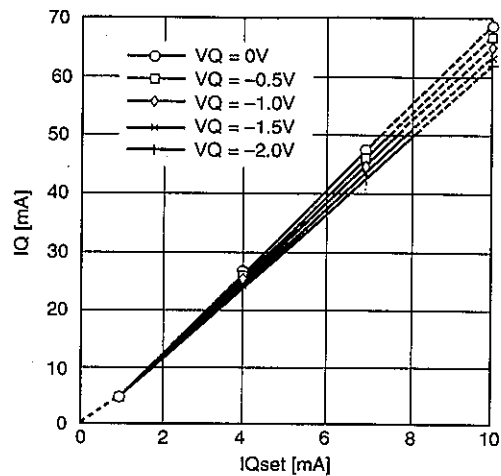

Fig. 2. Modulation current ( $I_Q$ ) vs.
This circuit modulates the laser diode and the modulation current can be set by feeding the current to the modulation current set pin (Pin 14 DrvAdj). The relation between the modulation current (IQ) and the modulation set current (IQset) is shown in Fig. 2. There is also a modulation current monitor pin (Pin 13 DrvMon) that allows the IC user to monitor the modulation current by putting an external fixed resistor between Vcc and DrvMon pins, and the modulation current can be monitored by measuring the voltage of DrvMon pin. The relation between the modulation current (IQ) and the DrvMon current (Idrvmon) is shown in Fig. 7.